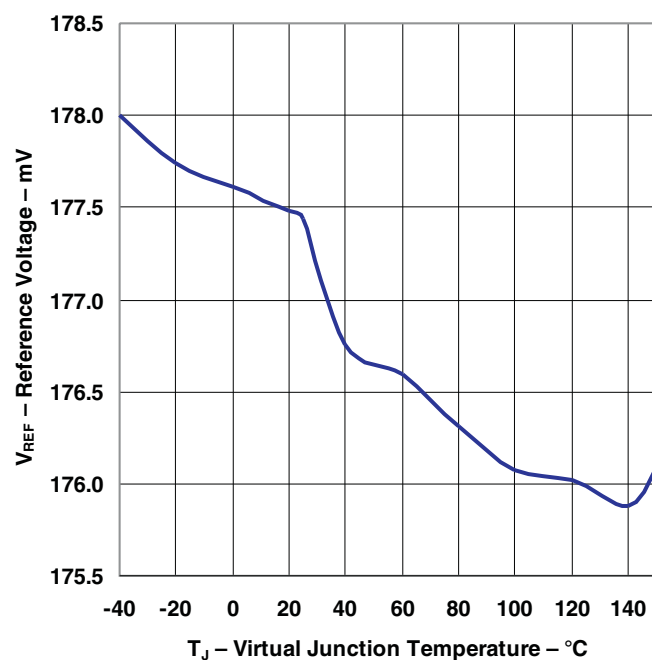

Figure 3. Reference Voltage vs Junction Temperature
(1)  $V_Q - V_{REF}$  equals the forward voltage sum of the connected LEDs (see Figure 3).